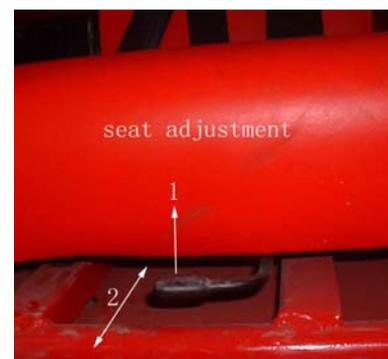

Figure 3
- c. Be sure seat adjustment handle snaps back into place and that seat is locked into position. (See Fig. 3)